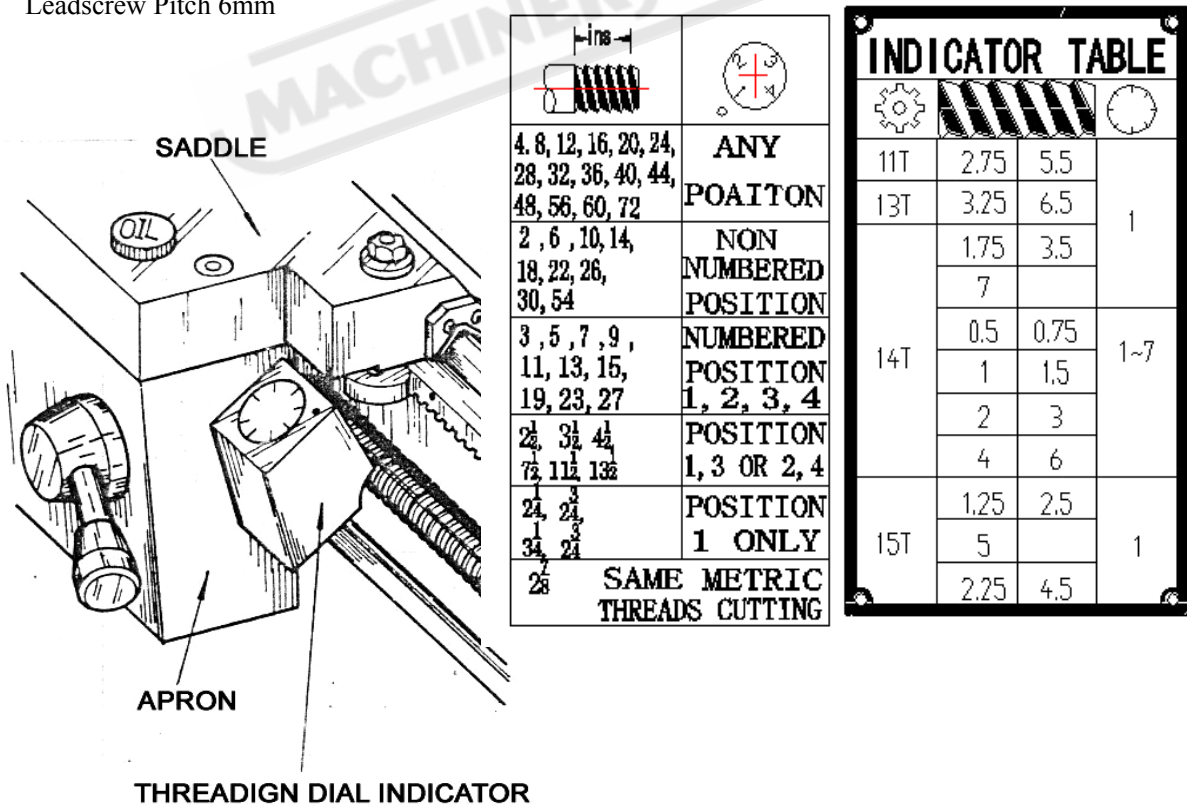
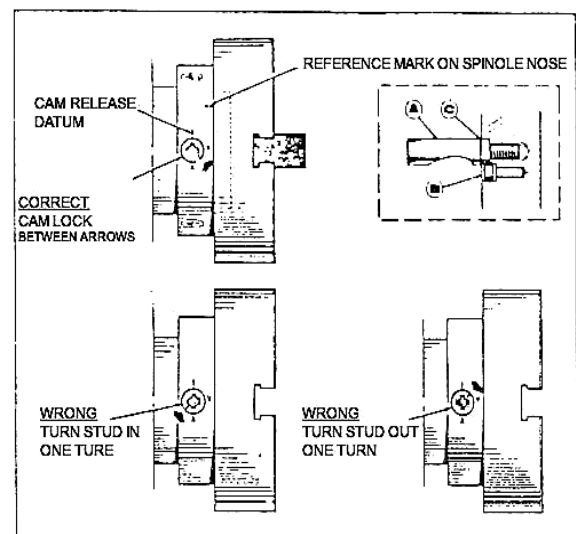

Fig.12
Fig.13
When fitting chucks or faceplates, first ensure that spindle and chuck tapers are scrupulously clean and that all cams lock in the correct positions; see Fig.12. it may be necessary to re-set the cam lock studs (A) when mounting a new chuck. To do this, remove the cap-head locking screws (B) and set each stud so that the scribed ring (C) is flush with the rear face of the chuck-with the slot lining up with the locking screw hole. See Fig.13.